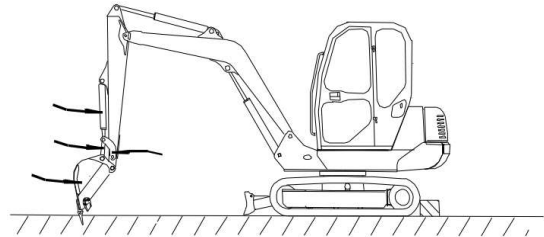

Fig. 1
- 1) First remove the bucket, bucket cylinder, connecting rod, rocker or other other attachments, etc. (as shown by arrows in Figure 1).